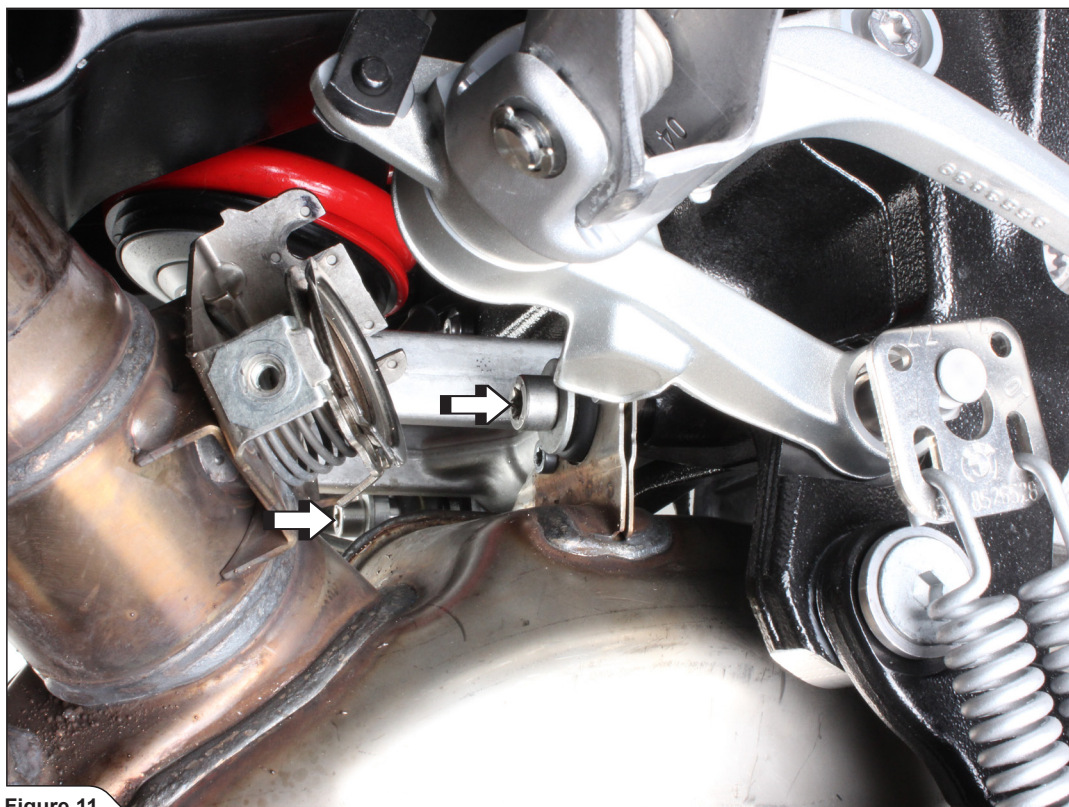

Figure 11
8. Unscrew the market bolts and carefully remove the stock exhaust off the motorcycle (Figure 11, 12).